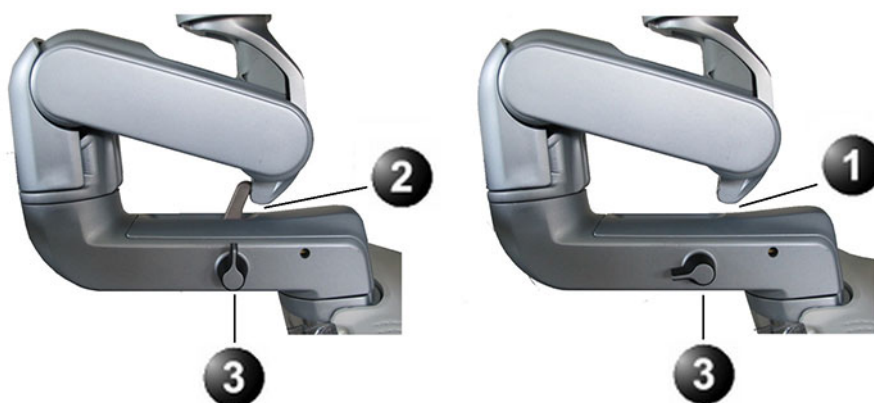

Figure 4-12 Positioning the LCD Monitor
- 2) Hold the upper part of the LCD monitor to adjust the position of the monitor (Figure 4-12).